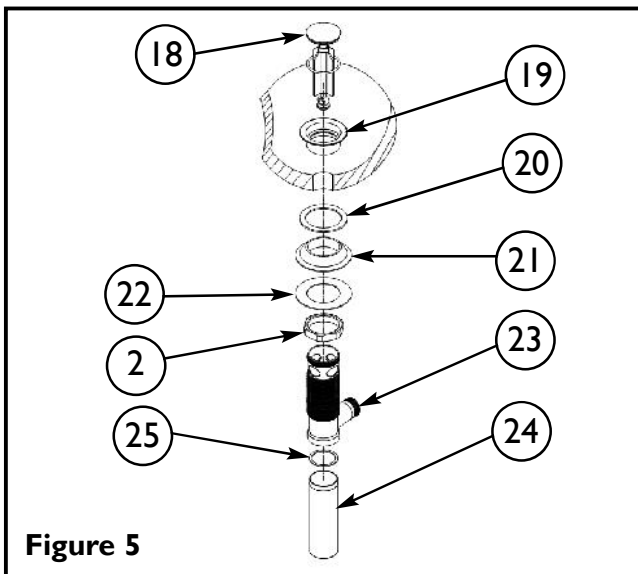

Figure 5
6. Remove drain PLUG (18) from FLANGE (19). Place FLANGE (19) and white WASHER (20) through sink drain opening. (Clear silicone may be used in place of white washer.) From bottom side of sink, place cone shaped rubber WASHER (21) onto FLANGE (19) and slide up against sink bottom. **Note:** Cone portion of washer should face upward. Next slide on clear flat WASHER (22) and secure with flange NUT (2). Place clear WASHER (25) into drain BODY (23) and tighten to FLANGE (19). Apply thread sealant to TAILPIECE (24) and attach to drain BODY (23). Attach TAILPIECE (24) to p-trap drain, not included. See Figure 5.